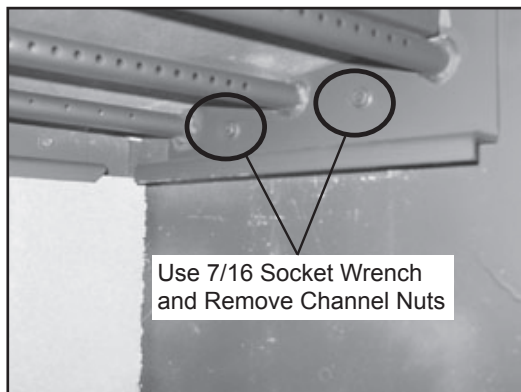

Figure 28.2
3. Locate the 2 channel nuts inside of chamber and remove using a 7/16 socket wrench (**Figure 28.2**).